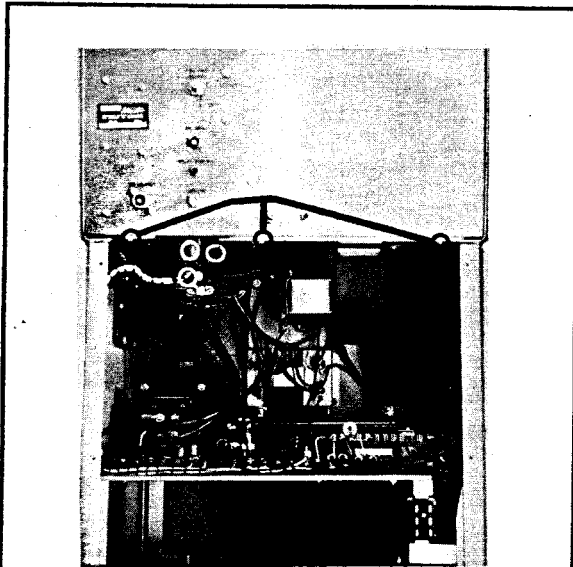

Figure 4. Rear View of the 3K-A Power Supply
- 7 Unscrew the high voltage connector, disconnect the filament connector, and disconnect the 11 pin metering control plug from the bottom of the RF deck (see Figure 4)
- 3 Disconnect the two blower wires from the terminal strip (positions 4 and 5) (see Figure 4).